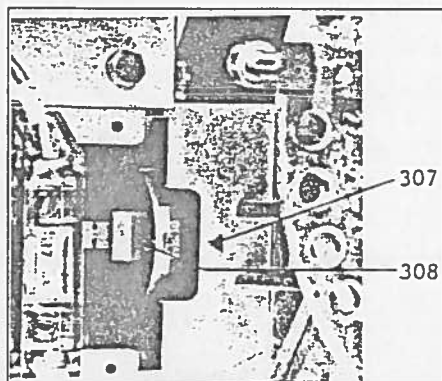

Figure 9 Motor drive mechanism is correctly placed at a tapping position
The drive is in the correct tap position if the red indicator triangle (307) is aligned with the tap position mark (308) (**Figure 9**).
The coupling position of the motor drive mechanism corresponds to the data in the tap-changer circuit drawing. Both tap changer and motor drive mechanism must be in coupling position. This position is indicated by a ▼ in the motor drive mechanism on the tap-position indicator disc (311) (**Figure 4**, page 6). This ▼ must be aligned with the indicator triangle ▲ (306). Furthermore, the tap-position indicator ▼ (307) must be aligned with the position indicator (308) (**Figure 9**, page 14).
Before the motor protection switch Q1 is turned on, the drive mechanism should be in a position somewhere in the centre of the tapping range. It will be in correct position if the red indicator triangle (307) is standing opposite the tap position indicator (308) (Figure 9, page 14). The right-hand cam of the chock (204) should also be standing beneath the mark for the chock position (210) (Figure 5, page 7).